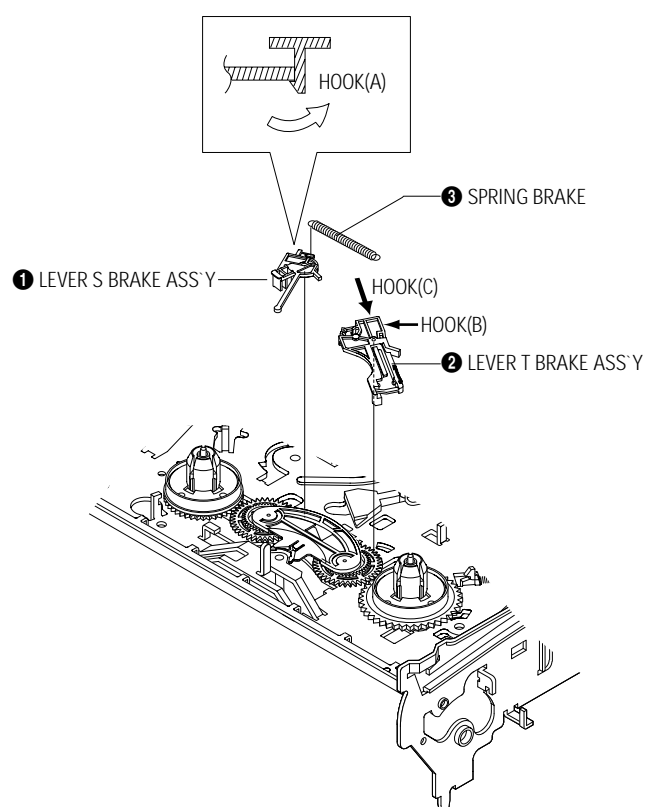

Fig. 4-22 Lever Brake S, T Ass'y Removal
- 1) Remove the Lever Brake S Ass'y (Refer to Fig 4-22).
- 2) Remove the Spring Tension Lever ❶.
- 4) Lift the Lever Tension Ass'y ❷ & Band brake Ass'y ❸.
- 1) Release the Hook [A] and the Hook [B], [C] in the direction of arrow as shown in Fig 4-22.
- 2) Lift the Lever S, T Brake Ass'y ❶, ❷ with spring brake ❸.